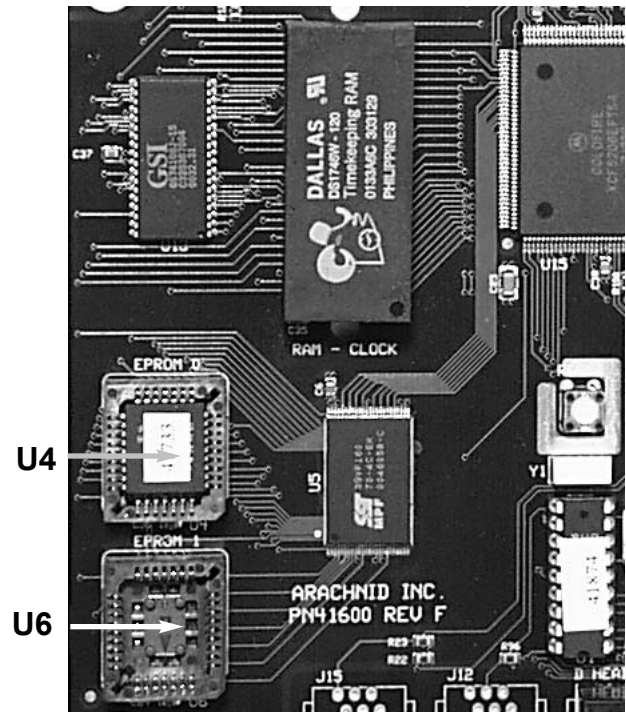

Figure B1 - Main board Detail
2. Insert a blank FLASH IC (or a FLASH IC that needs to be updated) into IC socket U6. Make sure that it is in the socket with pin 1 in the proper position. (See figure B1)